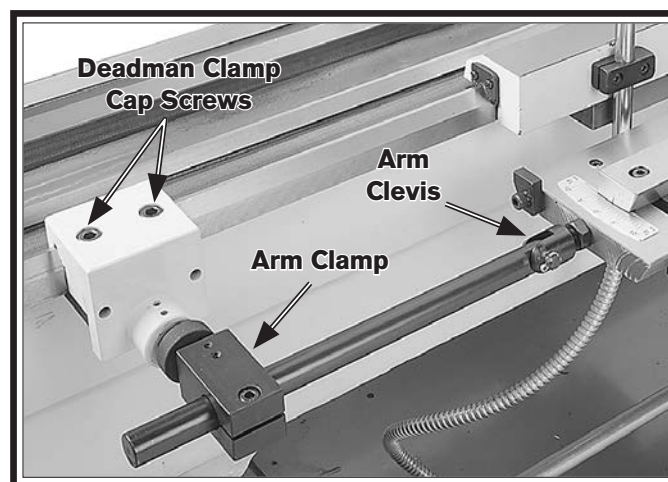

Figure 16. Deadman clamp and arm.
20. Thread the arm clevis into the taper attachment, then position the deadman clamp so the end of the arm slides into the arm clamp, as shown in **Figure 16**.